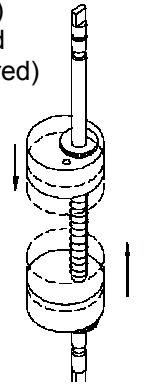

Figure 4
- Place the actuator in the clock-wise (CW) position and apply 24 VDC to the Profibus-DP Interface Card.
- Push down on the top cam (figure 4) until it clears the splined coupler and rotate clockwise until the CW LED (red) is illuminated.
- Pull up on the lower cam (figure 4) until it clears its splined coupler and rotate counter-clockwise until the CCW LED (green) is illuminated.